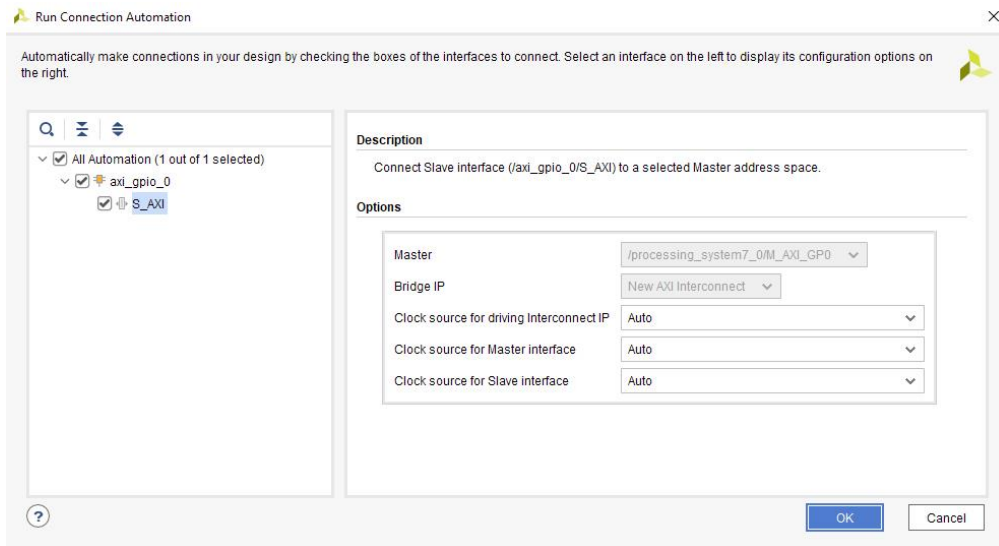

Figure 15
2. In the **Run Connection Automation** window, check **All Automation** (Figure 15)